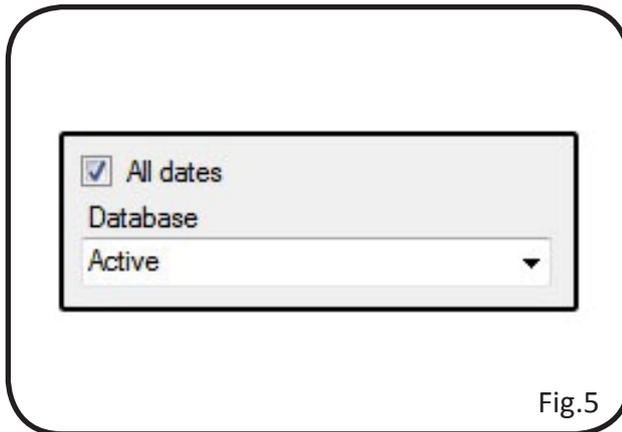

Fig.5
- **All dates** - tick this box to see all dates recorded by the event logger in the active database or the selected backup database shown in the database drop down menu (*refer to Fig.5 and see below*).